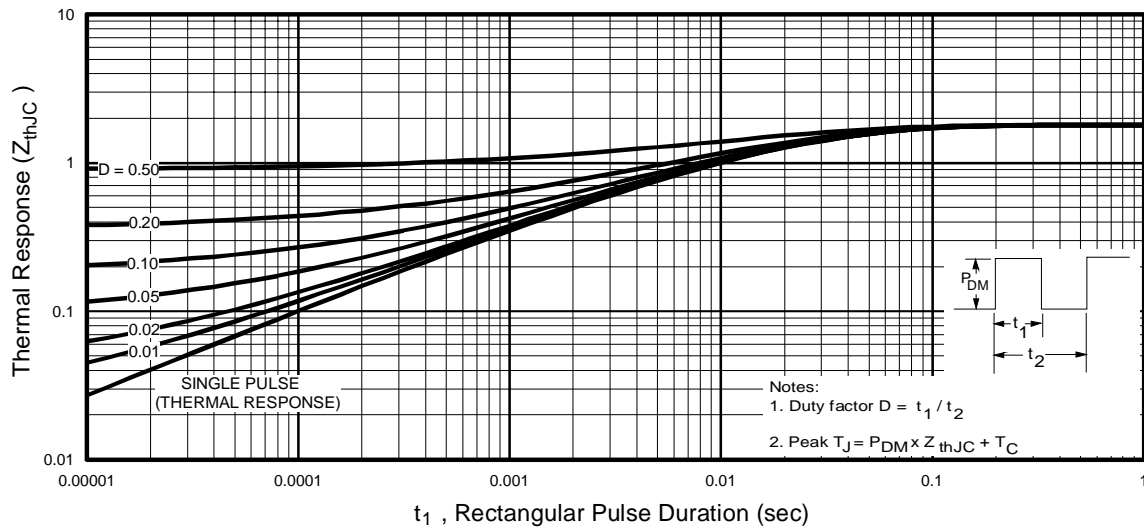

Fig 11. Maximum Effective Transient Thermal Impedance, Junction-to-Case
- ① Repetitive rating; pulse width limited by max. junction temperature. (See fig. 11)
- ② Starting T_J = 25°C, L = 14mH